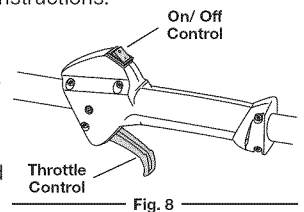

Fig. 8
NOTE: There is no need to turn the unit on. The On/Off Control is in the ON (I) position at all times (Fig. 8).
2. Press and hold the On/Off Control switch in the **OFF (O)** position until the unit comes to a complete stop (Fig. 8).
- NOTE:** There is no need to turn the unit on. The On/Off Control is in the ON (I) position at all times (Fig. 8).
5. Crouch in the starting position (Fig. 8). Do not squeeze the throttle. Place the Plug-In Power Start or Power Bit Start into the back of the unit. Refer to the Operation section of the Plug-In Power Start or Power Bit Start operator's manual.
6. Press and hold the ON (I) button of the Plug-in Power Start or Power Bit Start equipped drill in intervals no longer than 4 seconds each until the unit starts.
7. Wait and allow the unit to idle for 5 - 10 seconds. If the unit stops running during this time, squeeze the throttle control, then press and hold the ON (I) button of the Plug-in Power Start or Power Bit Start equipped drill in intervals no longer than 4 seconds each until the unit starts.
2. Press and hold the On/Off Control switch in the OFF (O) position until the unit comes to a complete stop (Fig. 8).